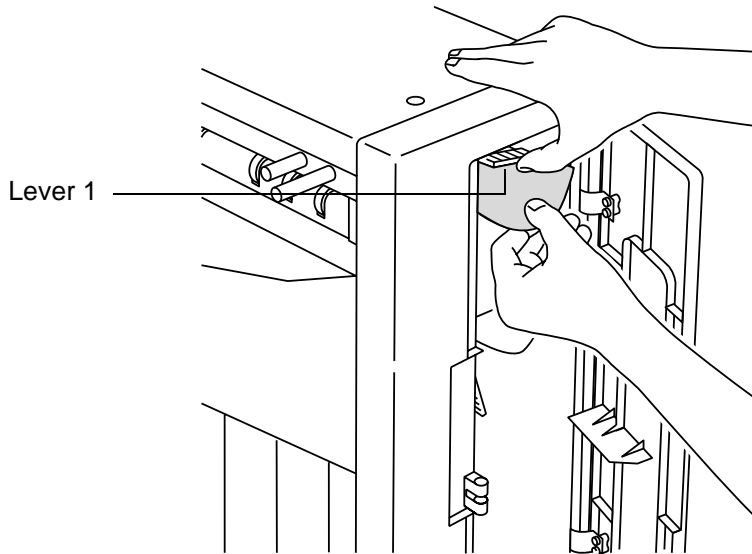

Figure 30 Lifting lever 1
Step 5 If jammed paper is not visible, lift HCO lever 1 to see if any paper is jammed near the top of the HCO. See Figure 30.